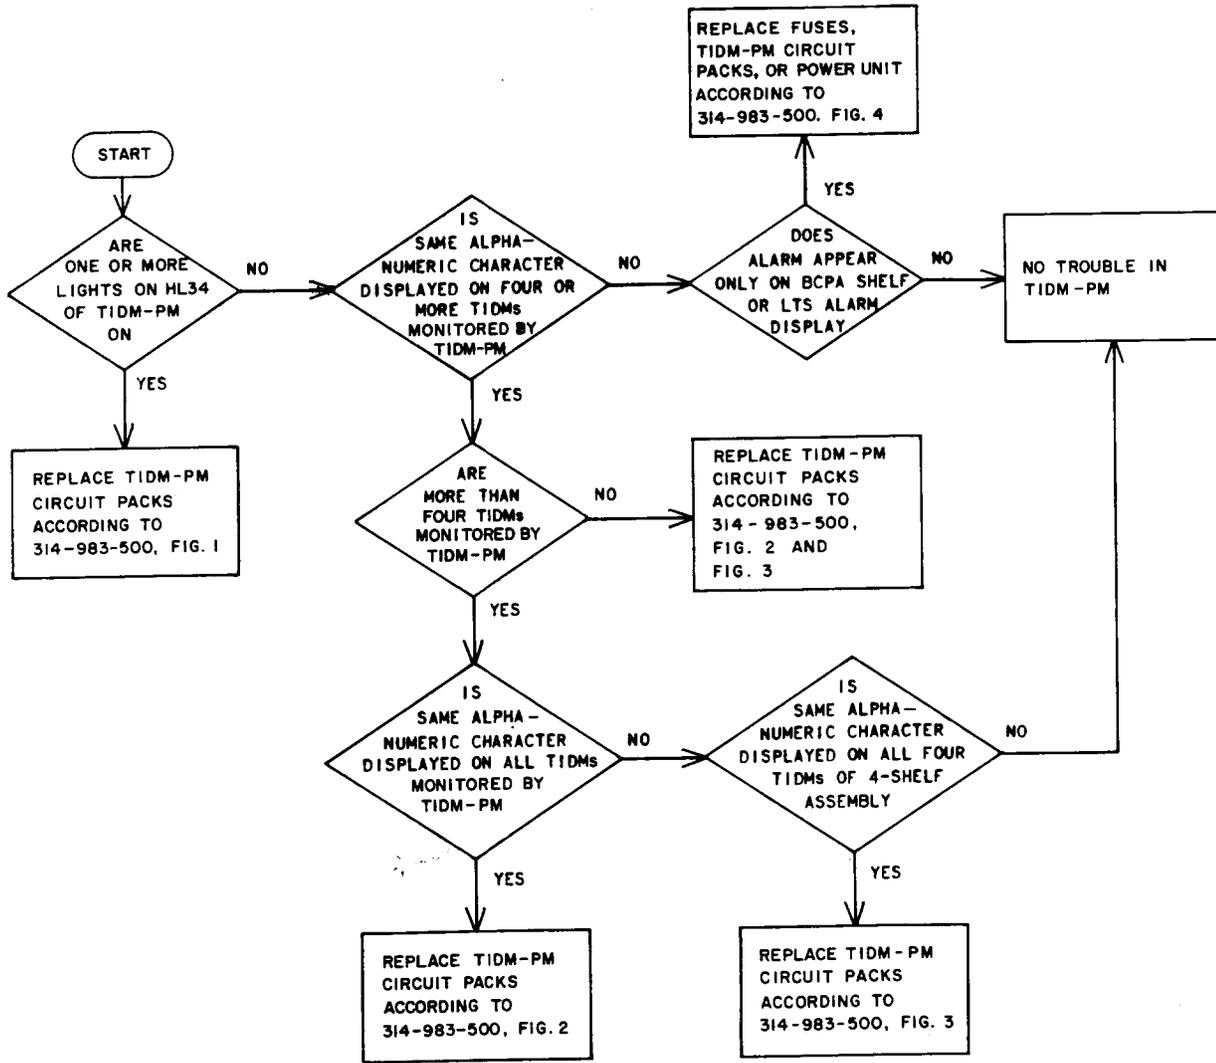

Fig. 2—TIDM-PM Troubleshooting Procedure
2.04 If one or more lights on HL34 are on, if the same alphanumeric character is displayed on four or more T1DMs monitored by a T1DM-PM, if an alarm is present only on the BCPA shelf or LTS (MJ, MN, or FA lamp is lighted), or if the T1DM troubleshooting procedures do not clear a trouble condition, refer to Fig. 2.